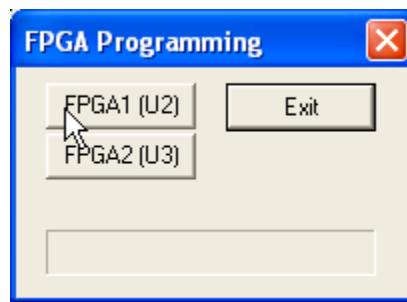

**Figure 77. HVDB Graphical User Interface**
4. Click on the HVDB icon on your desktop or Quick Launch taskbar. The HVDB GUI should appear as shown in *Figure 77* indicating that you have successfully installed the relevant software and hardware on the computer. However, if upon clicking the HVDB icon, the following warning dialog pops up, please follow the rest of the instructions in this section. **Note:** The dialog box shown is *Figure 72* will also appear if the GUI is launched while the board is powered down.